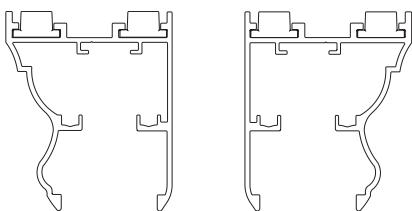

Figure 3
6. Lift Header (#1) into place - line up top of Header (#1) with finished opening. Drill two screws into the wall on each side at an angle. Then tighten the Allen Screws on both sides. See Figure 3